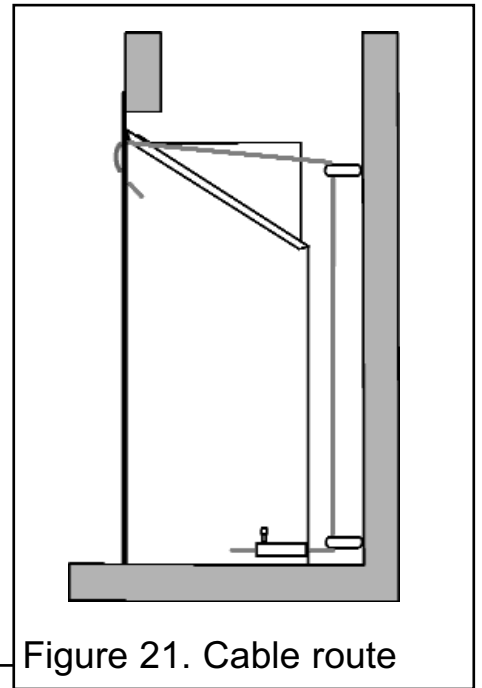

Figure 21. Cable route
6. Thread the cables through the eyebolts. Return the cables through the holes near the bottom of the convection box back panel (See figure 21).